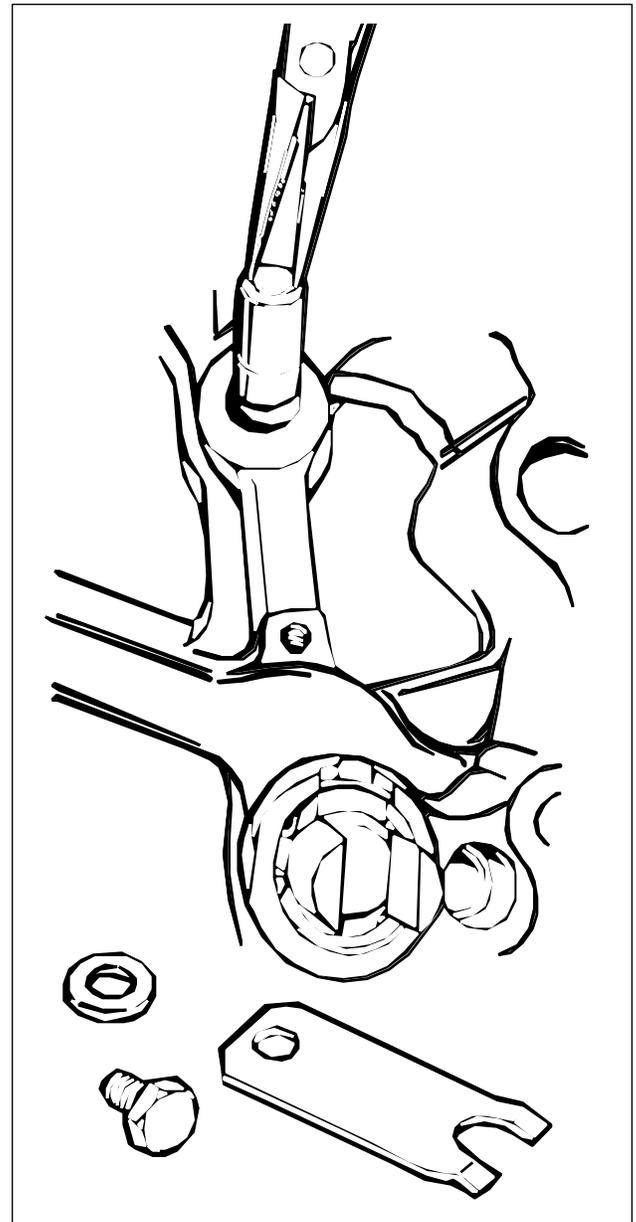

FIG. 21
2. Remove the master piston assembly with ceramic insert from its bore (see Fig. 21). If binding occurs, check for burrs or contaminants in the lube oil. Be careful not to chip the ceramic insert edges.